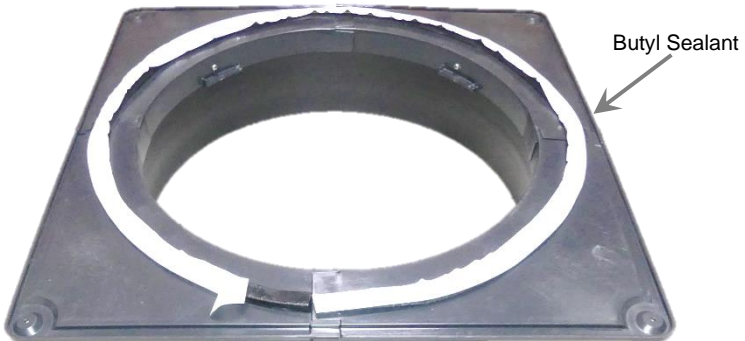

Figure 12
- 11.) With the white tape upward, apply the remaining butyl sealant rope around the groove on the bottom of the adapter flange, overlapping and kneading the ends of the butyl rope together (Fig. 12). Remove the white tape from the sealant rope and discard the tape.